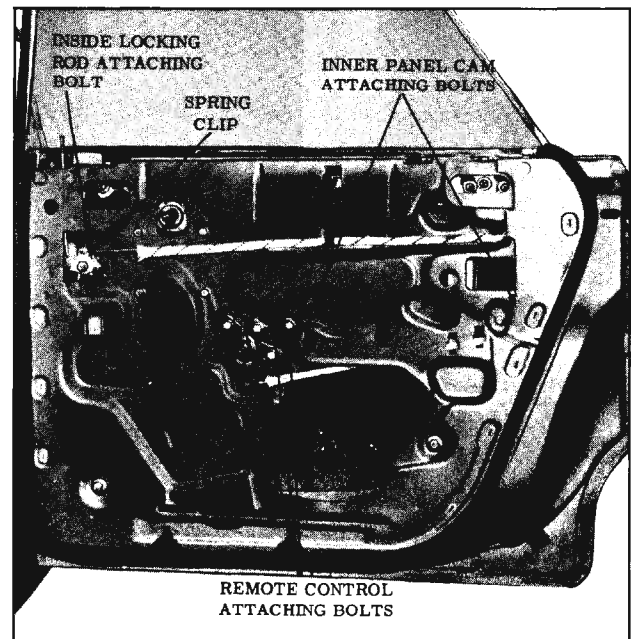

Fig. 16-54 Rear Door Hardware
to expose inner panel cam attaching bolts. (Fig. 16-54)
5. Disengage rod from spring clip on door inner panel. Remove inside locking rod attaching bolt and remove assembly from door. (Fig. 16-54)
2. Remove remote control attaching bolts and remove remote control from connecting rod. (Fig. 16-54)